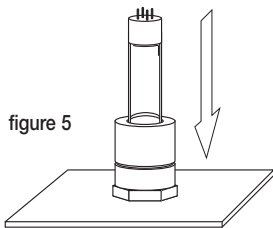

figure 5
10. Connect bulb to plug cap (See Figure 5*) and push cap down over retainer fitting.
8. Carefully slide the **UV lamp** through the **retainer** and into the **quartz sleeve** making sure that the lamp prongs are at the top (See figure 5).